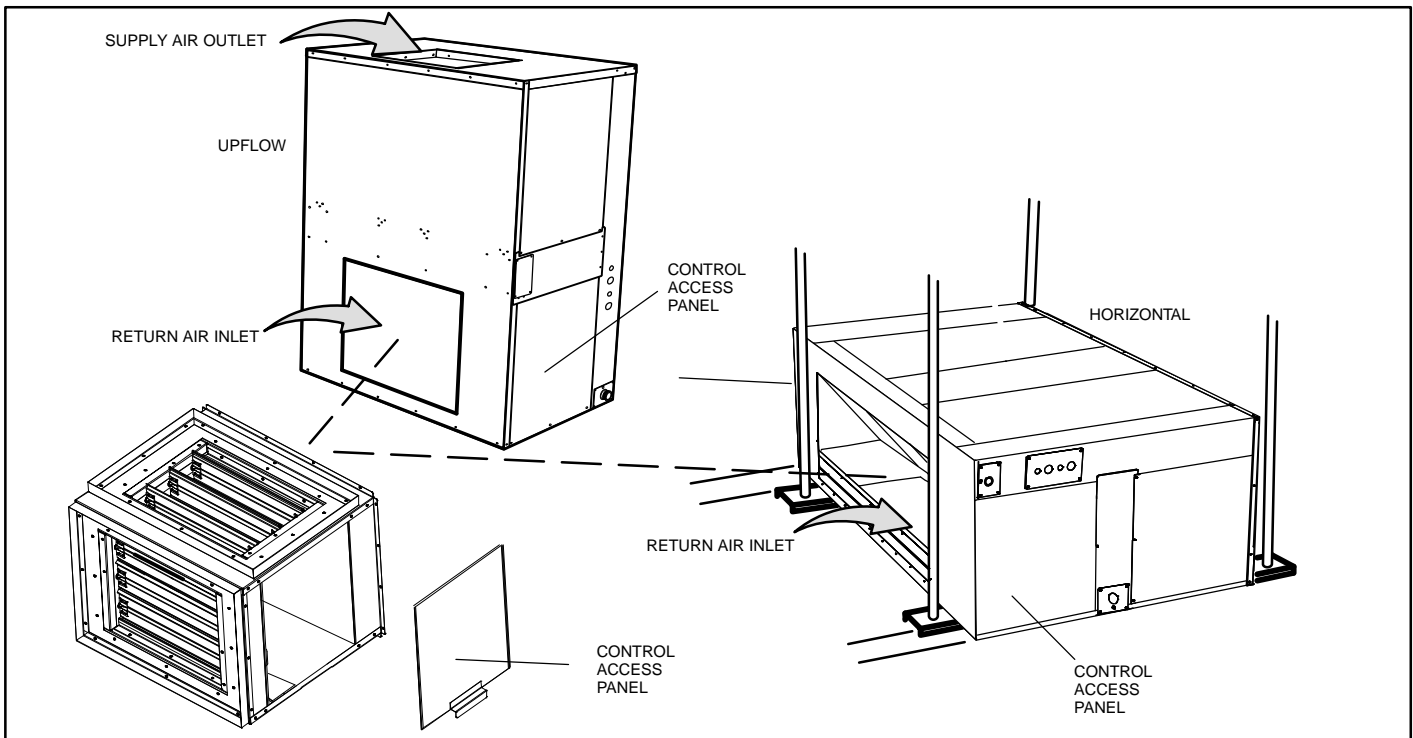

Figure 4. Upflow and Horizontal Applications
1. Attached mixing box over return opening with screws provided (figure 4)
4. Remove economizer control access cover (figure 4).